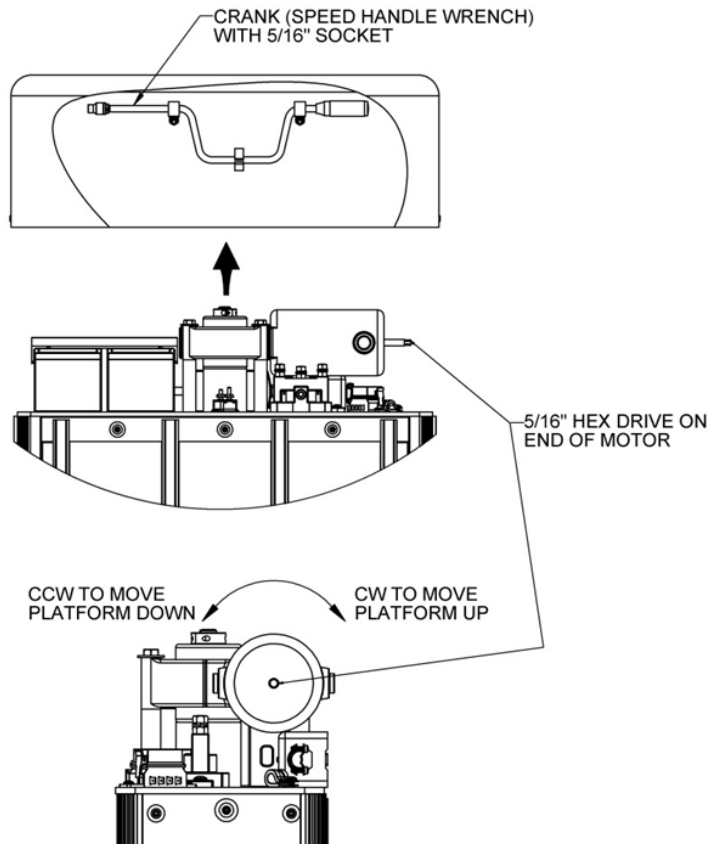

FIG. 17.3
7. Place the 5/16" socket onto the drive of the motor and crank to move the VPL. Cranking clockwise (CW) when facing the hex drive end of the motor will raise the platform and cranking counter clockwise (CCW) will lower the platform (FIG. 17.3).